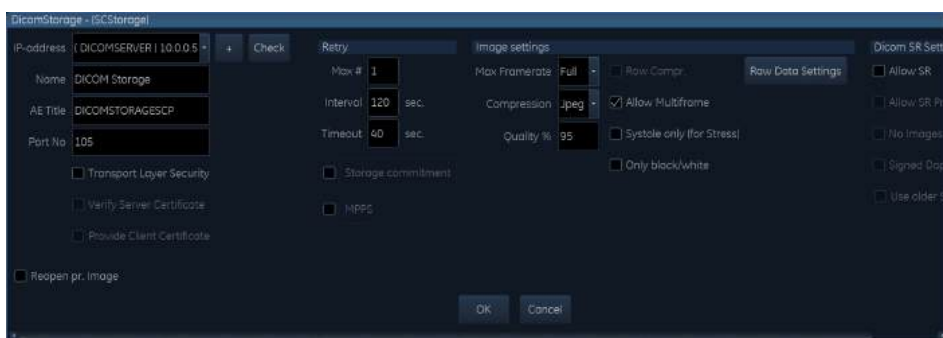

Figure 10-30. DICOM storage properties window
8. When configuring the DICOM storage device, the following image settings are recommended to enter in the *Properties* window (Figure 10-30):